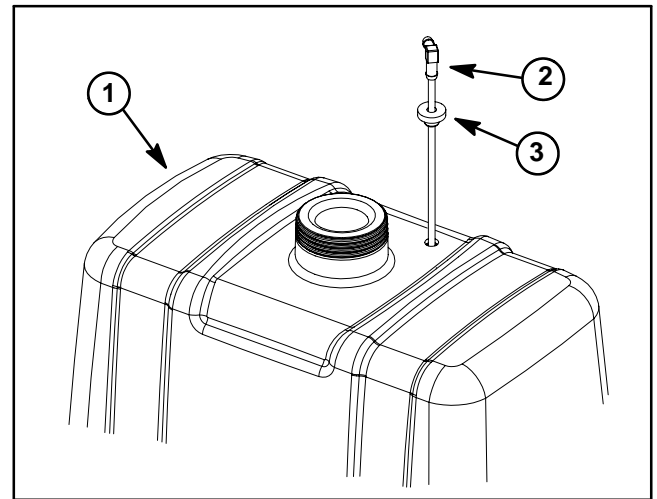

Figure 7
4. Remove four (4) cap screws and flat washers that secure tank straps to machine. Remove straps. Make sure that tinnerman nuts remain positioned correctly on frame brackets for assembly purposes.
6. Remove stand pipe and bushing from fuel tank if necessary (Fig. 7). Discard bushing if removed.
1. If removed, install new bushing and stand pipe into fuel tank (Fig. 7).
3. Secure straps and fuel tank with four (4) cap screws and flat washers.